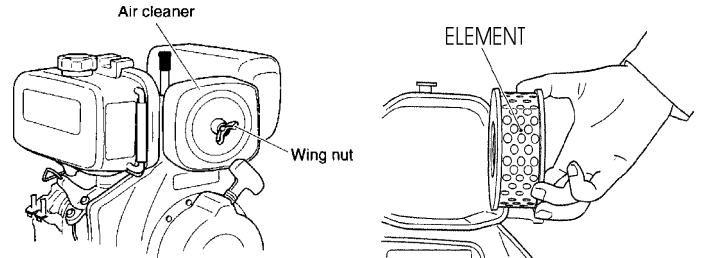

Figure 17. Engine Air Filter
1. Remove the air cleaner cover and foam filter element as shown in Figure 17.
2. Tap the paper filter element (Figure 17) several times on a hard surface to remove dirt, or blow compressed air [not exceeding 30 psi (207 kPa, 2.1 kgf/cm²)] through the filter element from the air cleaner case side.